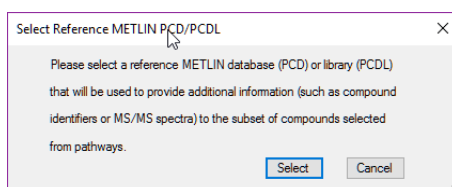

Figure 7 Select Reference METLIN PCD/PCDL dialog box
- a Click **Select** in the **Select Reference METLIN PCD/PCDL** dialog box (Figure 7).